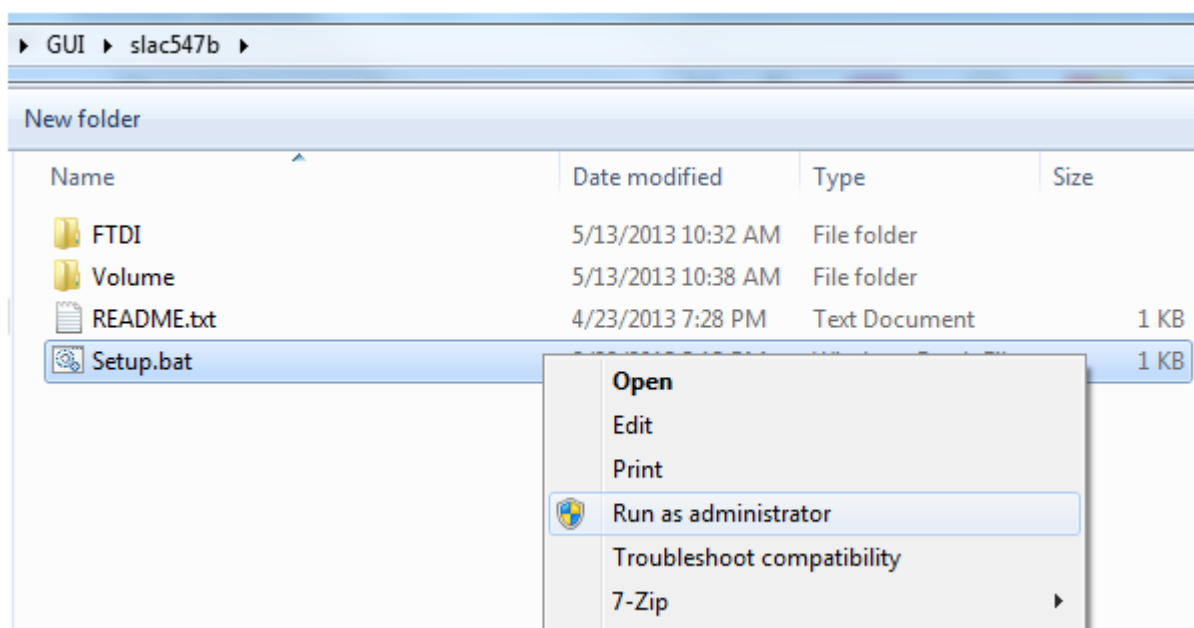

**Figure 10. HSDCpro Install (i)**
- As shown in Figure 10, a computer restart might be requested depending on whether or not the PC already has the National Instruments' MCR installer. If requested, hit the *Restart* button to complete the installation.